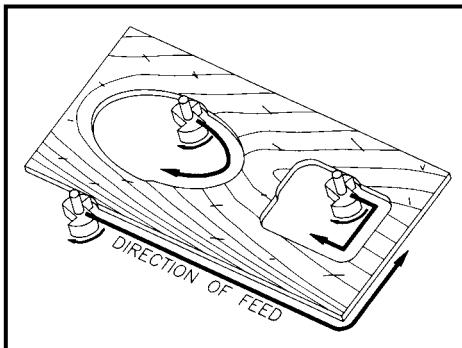

Fig. 8
Since the cutter rotates clockwise (when viewing router from top), the router should be moved from left to right as you stand facing the work (see Fig. 8). When working on the inside of a templet, move router in clockwise direction. When working on the outside of a templet, move router in a counterclockwise direction.
**WARNING:** Avoid "Climb-Cutting" (cutting in direction opposite that shown in Fig. 8), "Climb-Cutting" increases the chance for loss of control resulting in possible personal injury. When "Climb-Cutting" is required (backing around a corner), exercise extreme caution to maintain control of router.